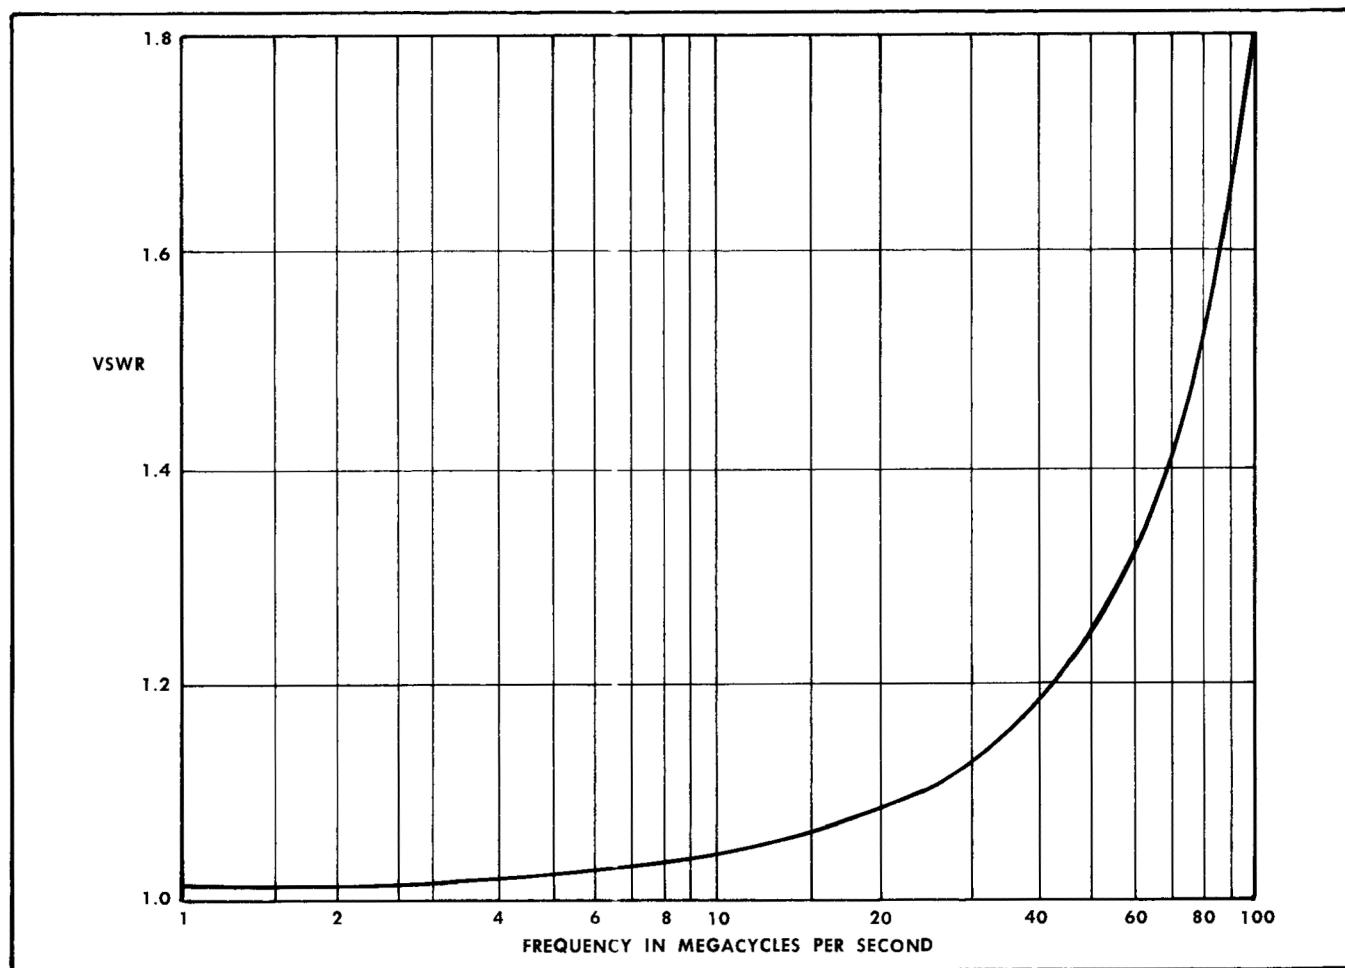

Fig. 2-3. Typical vswr versus frequency curve measured at the Type 82 input connector. The signal source was terminated into 50 ohms at the connector.
(6) Oscillations that arise from using coaxial (shielded) leads can be eliminated in a manner similar to that described for unshielded leads. That is, add a suitable value resistor in series with the center conductor of the cable near the input to the Type 82, use some other setting of the V/CM switch, or use the P6008 Probe.
(7) In high-frequency applications, it will be necessary to terminate the coaxial cable with a resistor or an attenuator presenting a resistance equal to the characteristic impedance of the cable. This will not only prevent resonance effects but also prevent ringing (high-frequency damped oscillations).
(8) It becomes more necessary to terminate the cable properly as the length of the cable increases. The termination is generally placed at the oscilloscope end of the cable, although many sources require an additional termination at the source end of the cable as well.
(9) If you are working with 50-ohm systems, you may need to use the vswr versus frequency curve shown in Fig. 2-3. The curve was obtained using a signal source which was terminated into 50 ohms at the input of the Type 82. The termination which was used is a type that has BNC connectors on